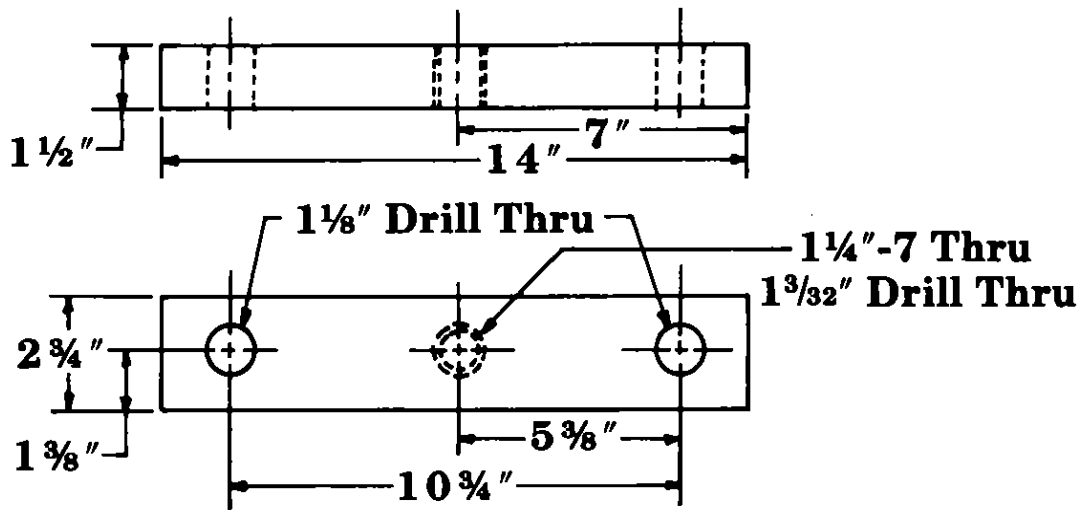

FIGURE 4. Housing Tool
20. Refer to figure 4 (Housing Tool) and cut a 11f2-inch thick metal plate 14 inches long and 2 $\frac{3}{4}$ inches wide. Drill two 1 $\frac{1}{8}$ -inch holes, 10 $\frac{3}{4}$ inches apart in the metal plate for fastening to housing flange. Drill a 1 $\frac{1}{2}$ -inch hole in the center of the metal plate. Tap center hole to 1 $\frac{1}{4}$ -7 for use of threaded rod. Bolt housing tool to outlet end of housing (28).
2. Using slings for support, position housings (28) assembly (approximately 1485 pounds) for installation into pump case (32) from inlet end of case. Using housing tool and case tool (figures 4 and 5) and threaded rod installed in steps 20 thru 22 of Pump Disassembly, tighten nut on outside (outlet end) of case tool to install (pull) housings (28) into pump case (32). Use extreme caution when installing housings to avoid damage to O-ring (30) and to ensure that housings remain joined by vent pins and studs. Position housings so that slot in housing (28) flange aligns with stop pin (20) bore in case (32).
3. Install stop pin (20) in bore of case (32). Install O-ring (21) and plug (22).
5. Install bushing (18) on inboard cover (40). Install stop subassembly (34) on inboard cover (40), ensuring that spring pin engages slot in installed bushing (18). Install capscrews (52), and tighten capscrews to a torque value of 30 lbs. ft. (\pm 2 lbs. ft.). Install O-ring (3) in groove of inboard cover.
6. Using eyebolts (29) to support weight of assembled inboard cover (40), install inboard cover (40) on case (32), using caution to avoid damage to O-ring (3) and ensuring that stop subassembly is properly positioned with idler rotor bores of housing (28). Install ferry capscrews (50), and tighten capscrews to a torque value of 1200 lbs. ft. (\pm 50 lbs. ft.).
7. Install O-ring (35) in groove of power rotor (11) shaft. Install balance piston (17) on power rotor (11) shaft using caution to avoid damage to installed O-ring (35).
8. Support power rotor (11) in lead lined jaws of bench vise, using extreme caution to avoid damage to power rotor. Assemble power rotor (11) as outlined in steps 19 through 28 of Servicing Mechanical Seal and/or Ball Bearing.